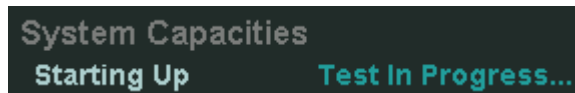

Figure 10-12 Starting Up Test Message Example
9. Self-Test will indicate which test is being conducted with the “Test in Progress...” description (Figure 10-12).